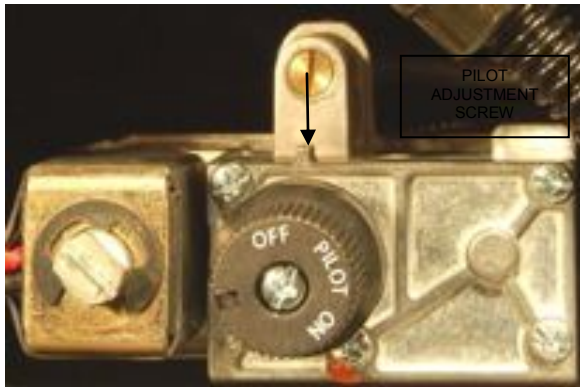

FIGURE 14
- 3- Push in the gas control knob slightly, and turn it in a clockwise direction to the OFF position. DO NOT FORCE! NEVER USE ANY TOOL, TO ROTATE THE GAS CONTROL KNOB! If gas control knob will not rotate, contact your installer or the Service Center. ( SEE FIGURE 14 )